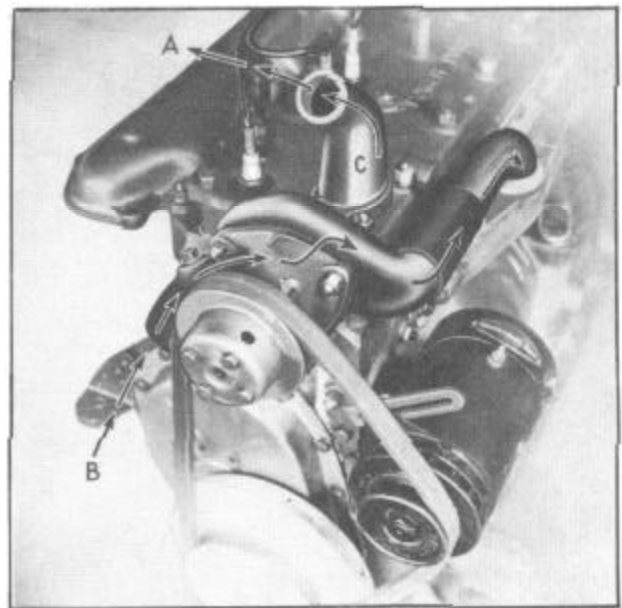

Figure 1--Water Circulation
The thermostat is located in the water outlet (C), Figure 1, and restricts circulation of the coolant through the radiator until the water has reached a temperature of 150° to 155 F. At this temperature the thermostat, which is of the choke type, begins to open and is fully opened at 185° F., permitting circulation of the coolant through the radiator as designated by arrows (A). After being cooled by circulating through the radiator, the coolant is brought back by the pump as designated by arrows (B) and is again pumped through the engine.